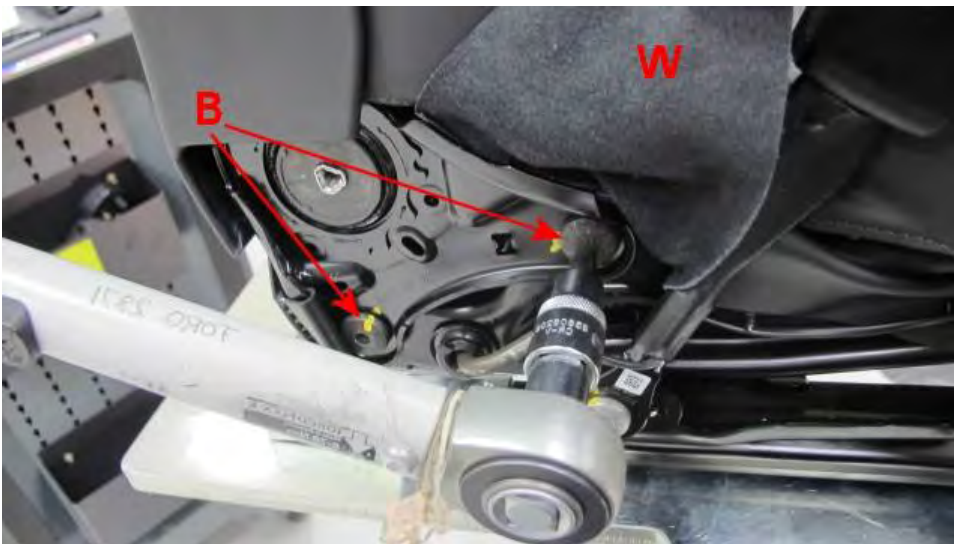

Figure 46
Rear squab marriage fasteners part number WHT002796B torque 33Nm fastener location for 4 seat rear only (see Figure 46)
6. Remove fir tree peg to release trim flap (W) that enables access to inboard marriage fasteners (B) (see Figure 46)
7. Using an in date calibrated torque wrench apply 33 Nm to fasteners (B), **four per rear seat** (part number WHT002796BM10x16) (see Figure 46)